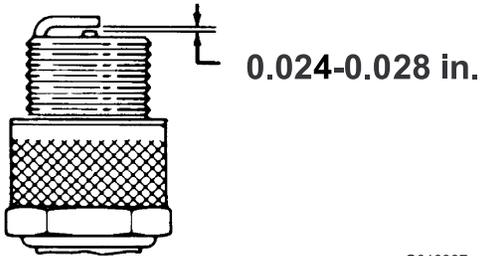

Figure 31
3. Ensure that the air gap is correct (Figure 31).